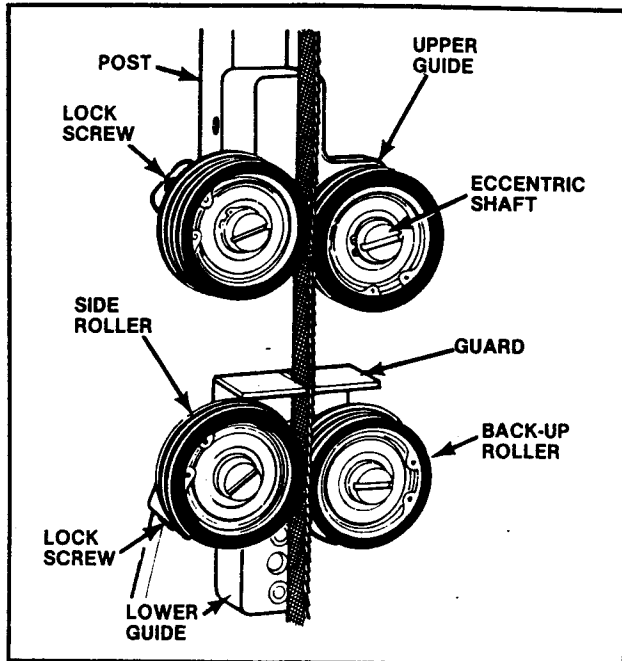

FIG. 56. ROLLER SAW GUIDES.
- (1) Select rollers which match band width to be used.
- (2) Place one back-up roller and one side roller in each guide block. See Fig. 56.